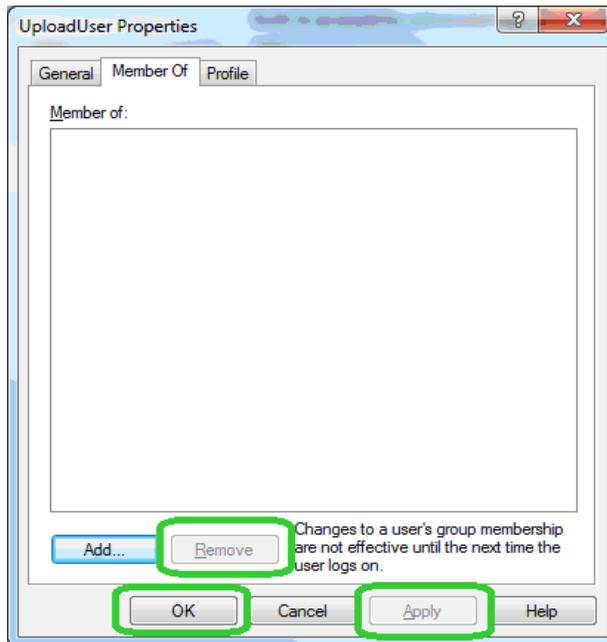

FIGURE 2-24 UploadUser Properties - Member of
Step 14 On the **Properties** dialog box, select any entries listed under **Member of:** and click **Remove**, as shown in FIGURE 2-24.